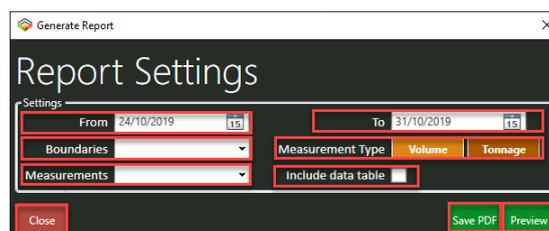

Figure 94. *Generate Report* settings dialog.
Selecting the *Generate Report* icon will open a secondary *Generate Report* Dialog (Figure 94).
2. This will open the *Generate Report* dialog (Figure 94).